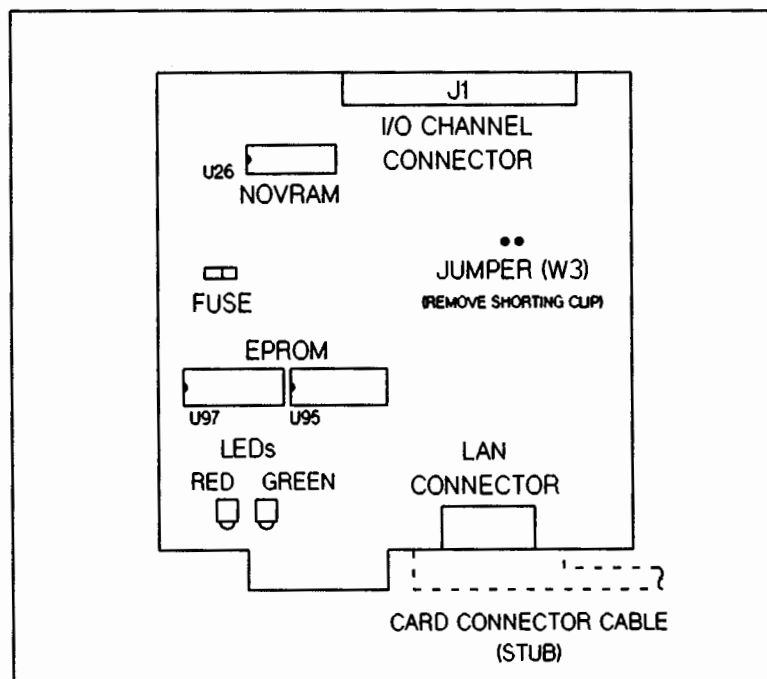

Figure 2-1. LANIC Card Illustration
- Determine the card's unique link level (node) address marked on the card's NOVRAM (see figure 2-1). This address should be entered in a network manager's log book.
The NOVRAM, part number 27125-81001, is an IC mounted in a dual in-line package (DIP) at location U26. Refer to figure 2-1 for approximate location..
To remove the shorting clip, locate the jumper. Refer to figure 2-1 for its approximate location. (Designator "W3" is not marked on the card. The jumper is near reference designator "U52", which applies to a nearby IC.) Remove the jumper shorting clip by hand. Simply lift the shorting clip from the two jumper posts; the clip can be discarded. The posts will be exposed and no longer electrically connected.
Install this cable by connecting the female 26-pin connector to the LANIC card (see figure 2-1 for orientation). Connect the female 15-pin D connector to the node's AUI or ThinMAU cables, or directly to the MAU. Figure 2-2(b) is an AUI cable diagram.
Install this cable by connecting the female 26-pin connector to the LANIC card (see figure 2-1 for orientation). Connect the female 15-pin D connector to the node's branch cable or directly to the transceiver. Figure 2-3(b) is an Ethernet branch cable diagram.
Field repair of the LANIC card is limited to replacement of the onboard fuse, EPROM, or NOVRAM. Figure 2-1 shows the location of these components. Instructions for replacing these components are contained in Chapter 4.